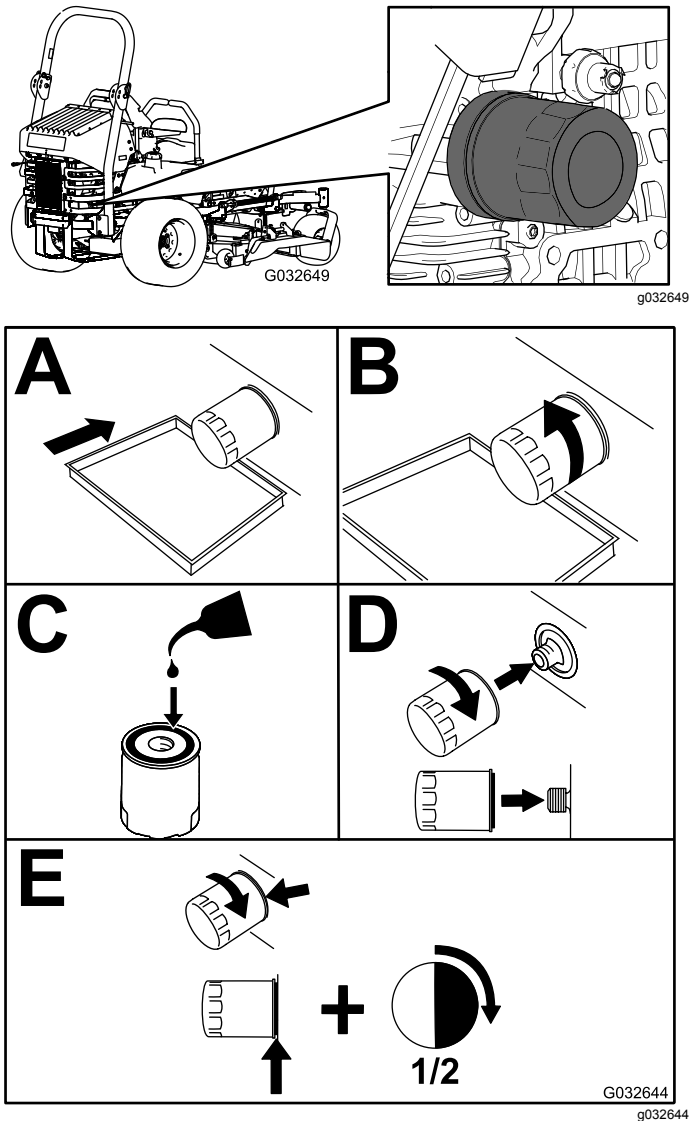

Figure 59
2. Change the engine-oil filter (Figure 59).